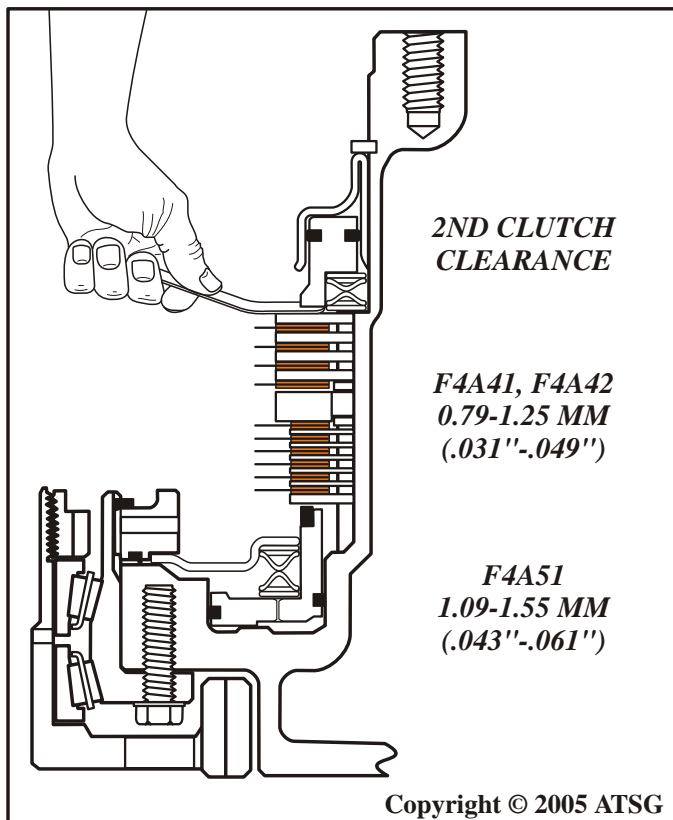

Figure 177
51. Check the 2nd clutch clearance with a feeler gage, between the selective apply plate and the 2nd clutch piston, as shown in Figure 177.
F4A51 = 1.09-1.55 mm (.043"-.061"), and is also shown in Figure 177.